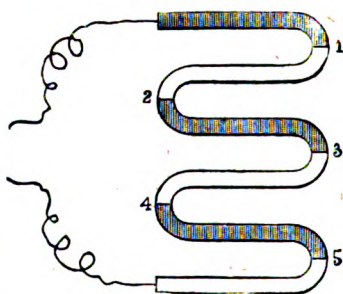
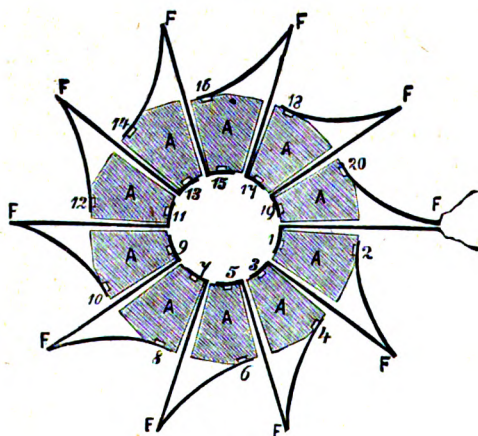
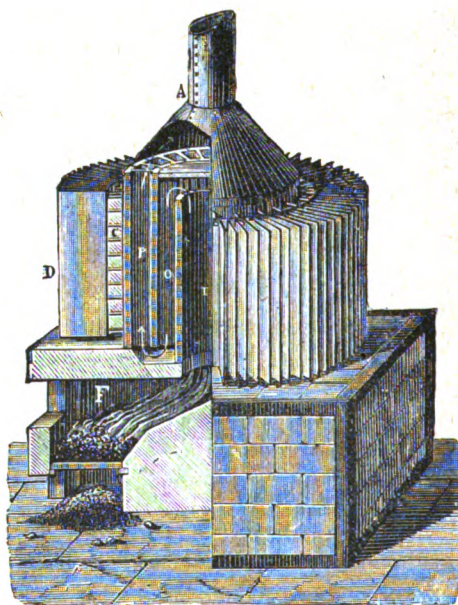

FIG. 1
FIG. 2
FIG. 3
**Jewel Case with Secret Drawers.**—The following instructions for making a jewel case with secret drawers refer to one about 12 in. by 10 in. by 8 in. Fig. 1 is a view of a jewel case when open; the carcass is put together with secret dovetail and mitred joints. The front or flap is mitre clamped and veneered on the face; the four drawers which the case contains are all hidden. The front A B (Fig. 1) is made in two parts, and represents the fronts of five drawers, A being made the height of drawers C, D, and E, whilst B is the height of drawer F and tray G. The bottom of G is a fixture, as are also the divisions between drawers F, E, D, C; the front A is made as shown, with two scratch beads at equal distances. The bead M, which divides the front, is loose; to it are fixed two steel forks, which fit into the square mortises (Fig. 3); the two drawer knobs K K (Fig. 2) have a small square spindle attached, over which the steel fork passes, and fixed on the end of the
spindle is an iron tongue and nut forming a turn-buckle. When the knob is turned so that the front is fixed, the fork K is dropped and fixes the front A, and, until lifted, the latter cannot be moved. N N are dowels fitted into the bottom of the case; the front B is made to work on pivots J J and is fixed by springs H H (Fig. 2). These springs are hidden by the silk lining of the tray, and, until released, the front A will not move; when the springs are released the front will fall on the bottom of tray G, giving access to the bead M. In a shallow case it will be necessary to form the movable knob at O O, or the forks L L will not draw out sufficiently to release the front A.
**Wiping a Plumber's Underhand Joint.**—The pipes having been dressed out straight, square the ends with a rasp. The burr should be cleaned out of the end of one pipe, and the outer arris cleaned off (see Fig. 1). Open the other pipe-end (Fig. 2) by means of a turnpin, so that the first pipe will enter as far as it is rasped off. Clean up with glasspaper and smear the pipes with a little whiting or chalk. Now mark the pipes at 6 in. from their ends by means of a gauge (Fig. 3). Paint the end of the pipe as far as the gauge mark with warm soil or smudge, and then with a shave-hook shave the pipes to a distance of 1½ in. from the end of the first (Fig. 1), and 1½ in. from the end of the second (Fig. 2). Shave also the rasped parts of both pipes. They must now be rigidly secured in position by laying each pipe upon two bricks set on edge or upon two lengths of quartering and then holding them down by string as shown in Fig. 4. On the bench immediately beneath the pipes place a sheet of brown paper to catch the solder which falls in the process of wiping the joint. Smear the shaved parts of the pipes with tallow, which acts as a flux. Have conveniently near a pot of solder in the proper temperature, and then, with a ladle in one hand and a wiping-cloth in the other, commence to make the joint. The first stage is to pour on the metal and "tin" the joint, the second is to shape the joint, and the third
**Thermo-electric Piles.**—The simplest form is shown in Fig. 1. It consists of a number of strips, say of bismuth and antimony. These are joined, and alternate junctions, as 1, 3, and 5, heated as shown, while the other junctions are cooled. The action is very weak; for instance, for a single pair of these metals the electromotive force is only about 120 microvolts ( $\frac{120}{1,000,000}$  volt) per degree centigrade difference of temperature between the junctions. Even this electromotive force is lowered
antimony and lead the potential difference is the difference between '000068 and 0, or '000068 volts. The physical conditions of the metals have much effect on the voltage; thus, hard platinum is thermo-electrically negative to soft platinum. A section of Clamond's thermopile is shown in Fig. 2. The elements consist of block A, of an alloy (two parts tin and one part zinc), and arms of sheet iron F. The latter project and offer considerable surface to the air, so that the joints numbered 2, 4, 6, etc., to 20 are cooled. The inner junctions 1, 3, 5, etc., to 19 are heated, an earthenware cylinder with holes across it allowing coal-gas jets to play on the joints. Five such layers were used. Another form of Clamond pile is shown by Fig. 3. In this the hot gases from a coke furnace F pass up through the flues T, O, and P, and out at the chimney at A. The elements are shown at C, while copper radiators D attached to the outer junctions, but insulated from them, serve to increase the difference of temperature. It is said that from a battery with 3,000 couples the total electro-motive force obtained was 109 volts, the internal resistance being 15.5 ohms. The temperatures of the junctions were not stated, but 11 lb. of coke was burned per hour.
forming the bottom of the door, with a small rectangular box riveted upon it, in which a flat bolt is arranged, so as to slide up or down. Fig. 2 is a plan of the T and angle iron, box with slot in top and opening at bottom, and also an iron plate riveted on the underneath side of T-iron, a slot being cut in this for the bolt to slip into to fasten the door. Fig. 3 is a section on the line A B, showing the position of bolt in box, and projecting plate on T-iron with slot for bolt to enter.
**How to Make an Everset Photographic Shutter.**—A shutter suitable for use with a single lens at the diaphragm (as employed in the bull's-eye kodak, and shown complete at Fig. 1) may be made as follows:—Cut thin brass or zinc to the shape shown by Fig. 2. The centre part A is punched in, and upon it the shutter or circle turns. The projections are turned up, and the part B, after being pierced and cut round, is turned up on the dotted line. Now cut the releasing arm (Fig. 3) in the metal, bending in the dotted lines to the form J. Note the slot L. Around the screw or pin fitting the screw hole M
rotate, to provide the horizontal motion; the vertical motion being provided by a metal clasp having two trunnions, which rotate on wooden uprights provided with V-shaped bearings. This mounting is supported by a wooden tripod stand similar to the ordinary camera stand, though, of course, more substantial and rigid. It can therefore be used either indoors at an open window or in the garden. In the tripod shown in Fig. 1 the three legs are bolted to a wooden base and provided with three cheeks for the purpose. Under the base, about halfway down and connecting the three legs together, is a sort of a double joint, which folds upward when the stand is not in use. When open, this drops and keeps the legs stationary. Above the base, and glued and screwed to it, is a circular, cylindrically shaped block having a hole through its centre to receive a female cone of metal. A recess in the block receives the shoulder at the top, which is then screwed down to the block. This cone is shown in section at A (Fig. 2). A cone, shown at B, is similarly screwed to the oblong stage of wood above the block, to which the uprights are screwed. The two centres are ground together, and, when fitted accurately, are held together by a screw and washer at the ends. The uprights, shaped as in the illustration, carry the clasp by its trunnions, the clasp being screwed around the body tube of the telescope. The clasp is a metal casting about  $\frac{3}{4}$  in. deep, with two circular trunnions and two rectangular wings. This is shown in elevation and plan at Fig. 3. When the tube has been turned to fit the tube, and the trunnions turned exactly equal to each other in diameter and fitted between the uprights and to the V's on them, the rectangular wings are drilled for four screws, two at each wing. The ring is then severed into two halves, the saw cutting through the wings. Some blotting paper is then pasted in the curves of each half, to prevent the disfigurement of the lacquer work on the body tube, and, when dry, the clasp is screwed together around the tube. In this way the two horizontal and the vertical motions are supplied.